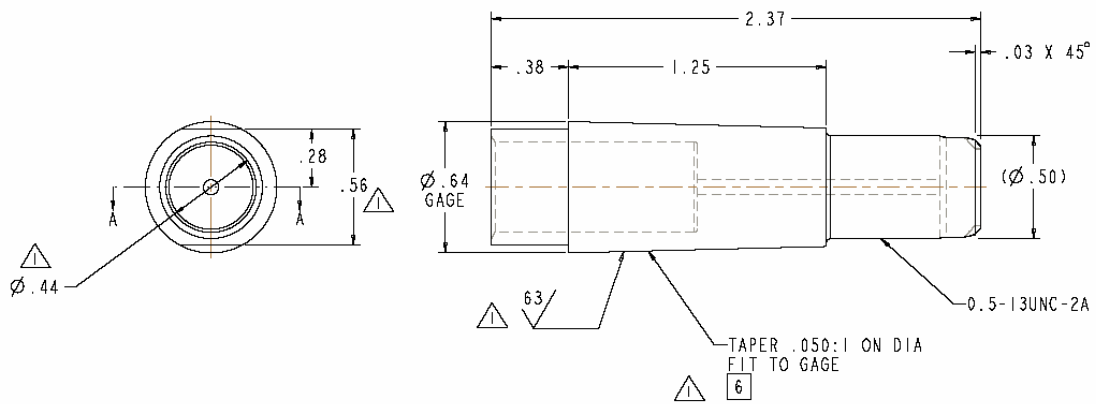
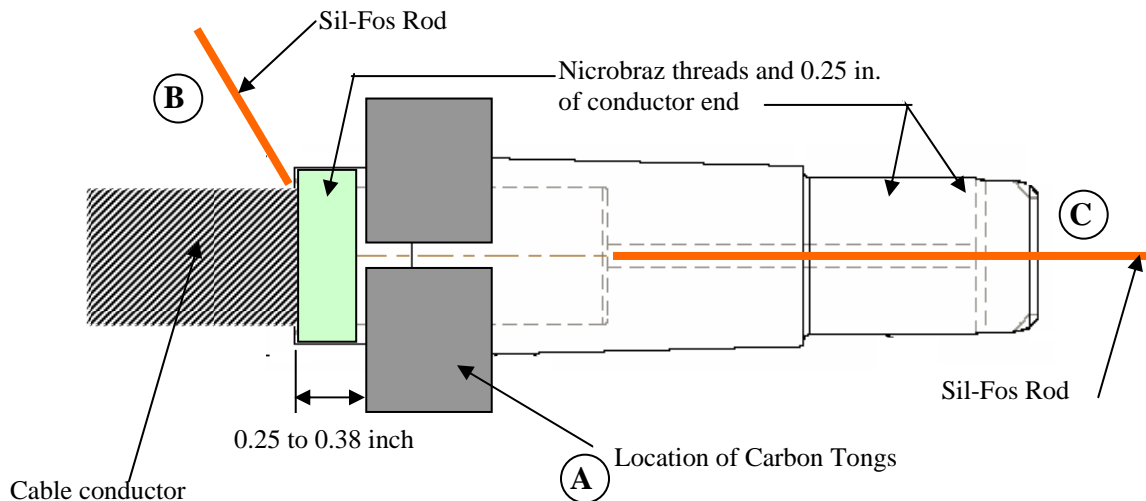
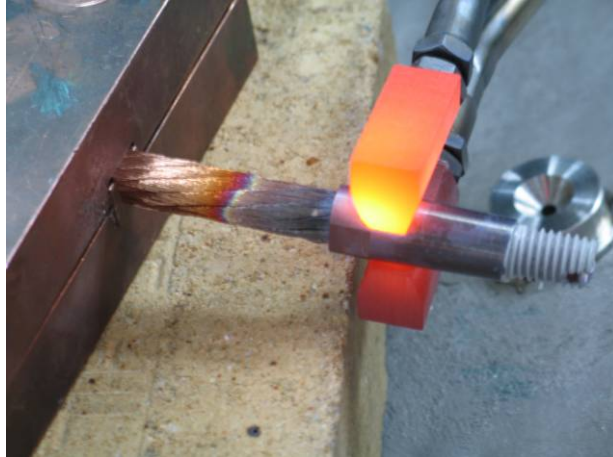

Figure 11- Cable Connector
Figure 18- Carbon Tong Positioning & Sil-Fos Feed
Figure 19- Heating Copper Connector
6.12.3 Copper Cable Connector: Clean the copper cable connector [Figure 11- Cable Connector] [drawing no. SE142C-059] using acetone-degreasing agent Scotchbrite and clean lint free wipes. Use a wire bottlebrush on the inner bore along with the acetone. Once cleaned, do not touch the components with bare hands. Coat the threads of the cable connector and 0.25 inch from end of connector with “Microbraz” [Figure 18- Carbon Tong Positioning & Sil-Fos Feed]. This coating will minimize the braze material from adhering to the external surfaces. Do not get any of the “Microbraz” inside of the connector since this will effect the quality of the braze joint.
- 6.12.9 Position the carbon tongs 1/4 -3/8 inch from the conductor end of the copper connector [A]. [Figure 18- Carbon Tong Positioning & Sil-Fos Feed and Figure 19- Heating Copper Connector]